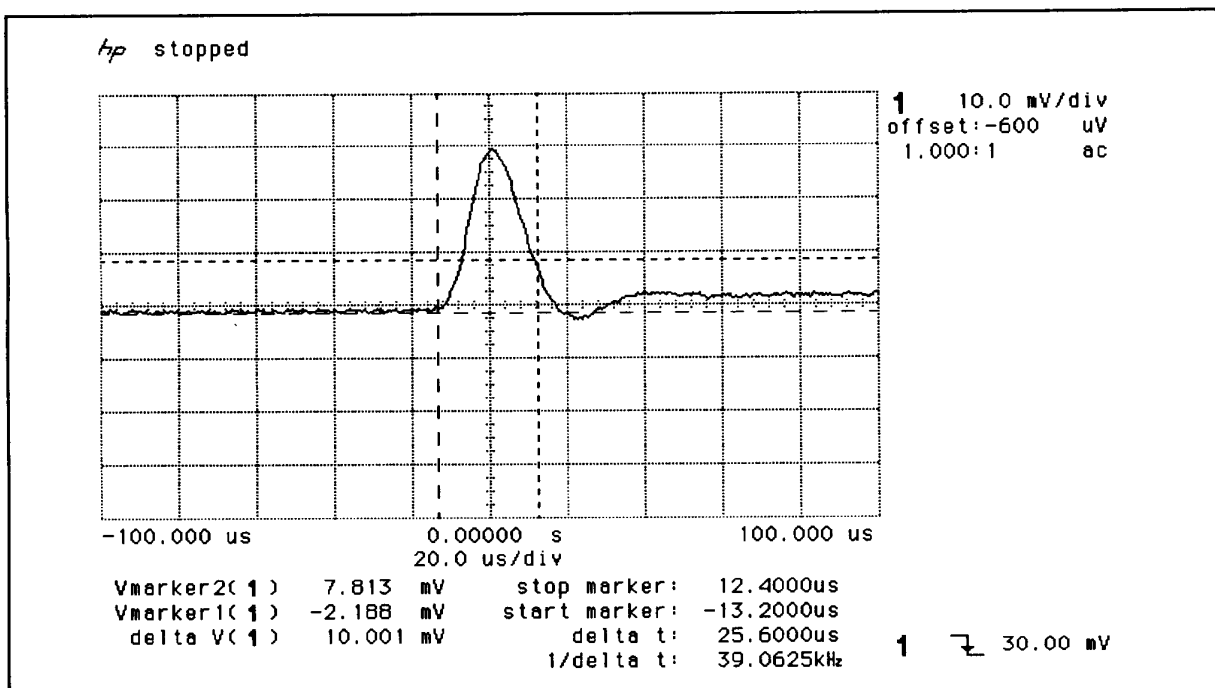

Figure A-3. Load Transient Recovery Waveform
- Adjust the oscilloscope to display transients as in Figure A-3.